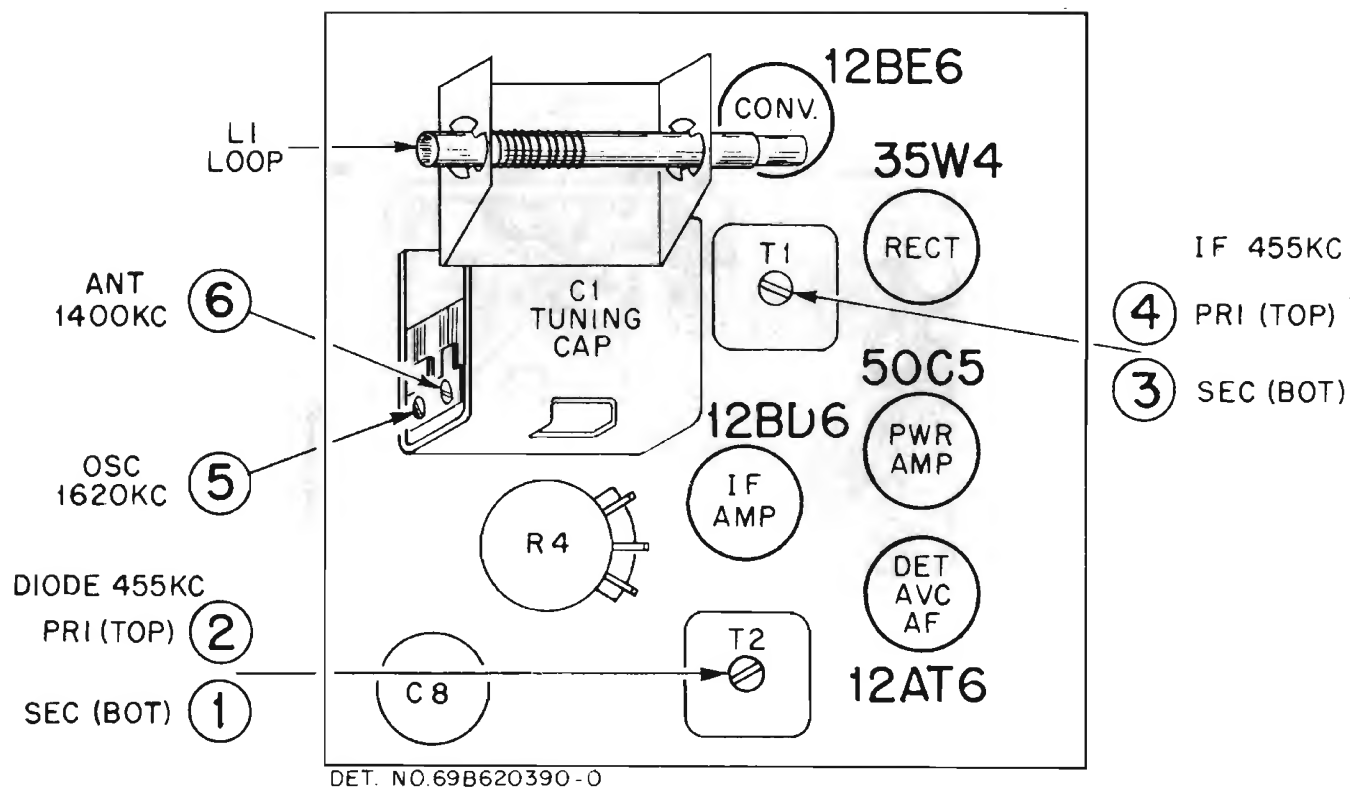

FIGURE 2. TUBE AND TRIMMER LOCATIONS
7. See Figure 2 for adjustment locations and the following chart for procedure.